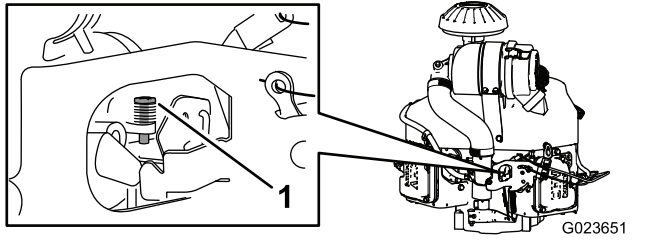

Figure 67
- Adjust the stop screw on the carburetor (Figure 67) so that the idle speed is 1350 to 1550 rpm.